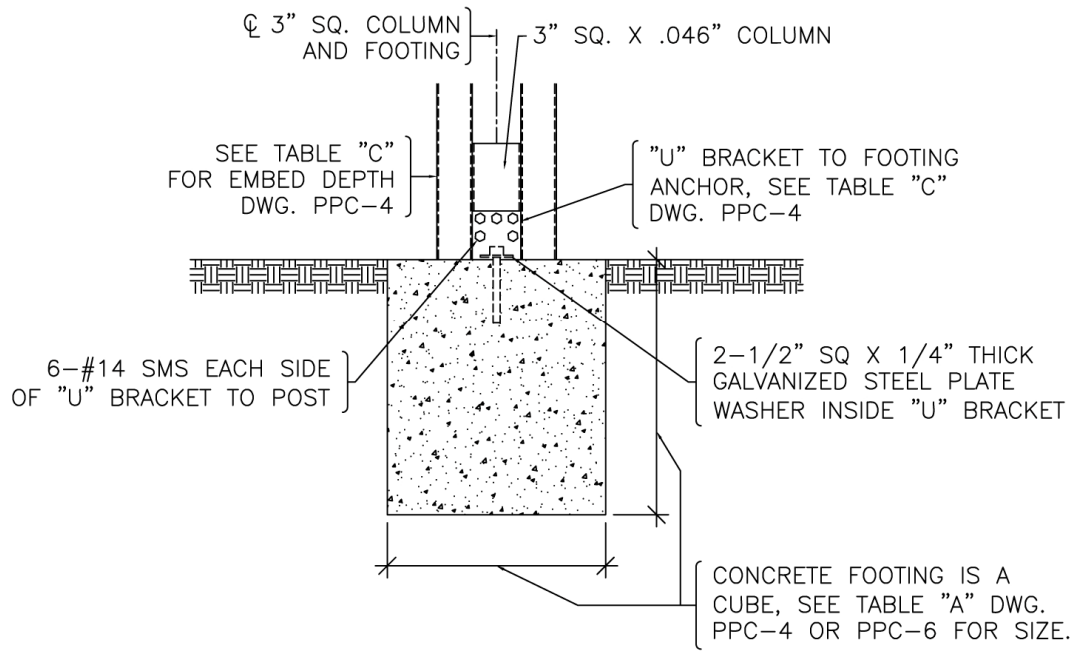
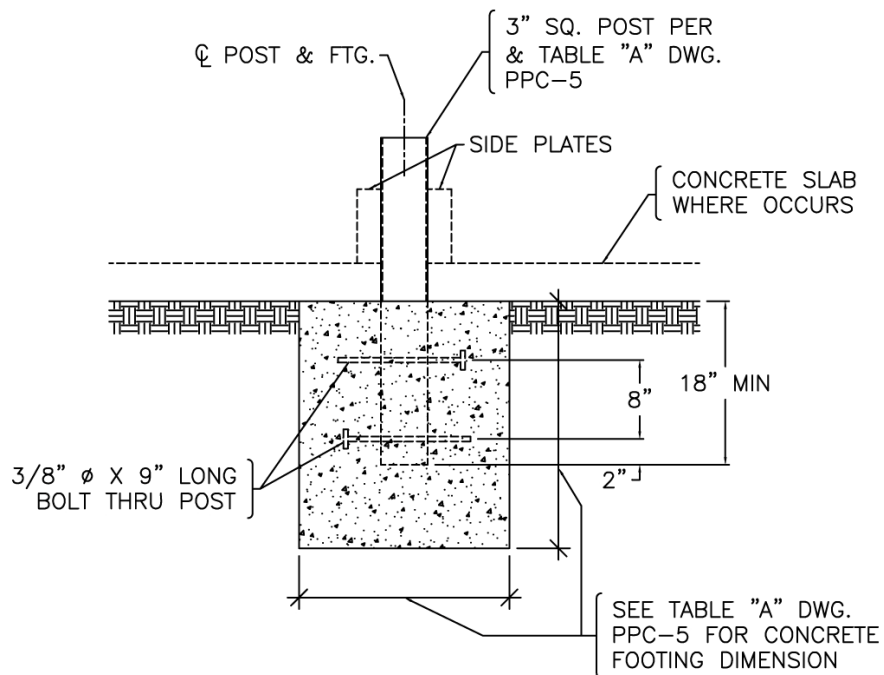

Figure 4
Figure 5
4. Lower beam onto anchor bracket and attach with screws as shown. (If your local construction laws require the supports to be anchored in the ground, see Figure 4 and Figure 5.)